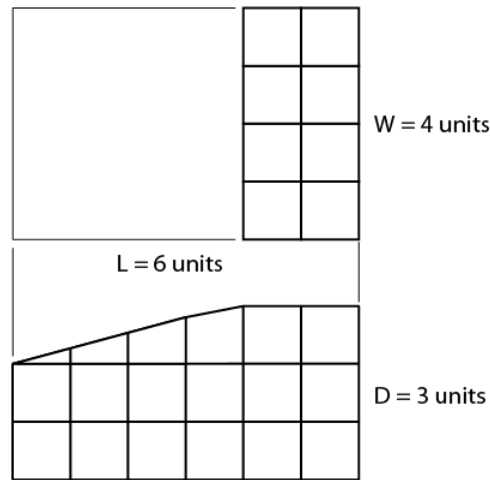
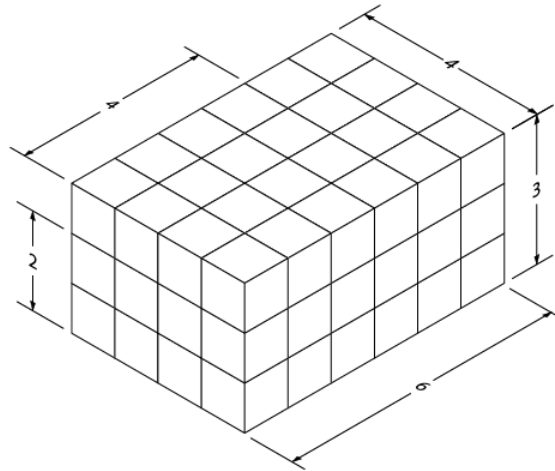

Figure 6.3.1: Rectangle with face machined at an angle
Figure 6.3.2: Rectangle with units marked along L and D
Figure 6.3.1 shows an object that is basically rectangular but has one face machined at an angle. You can easily construct an isometric sketch of the basic rectangular block. To show the machined face, it is necessary to plot the appropriate points of intersection and join those points to produce the correct angle.
Sketch a light outline of the basic rectangular block using the size measurements given in Figure 6.3.1. Mark the number of units indicated along the length (L) and the depth (D), as shown in Figure 6.3.2.